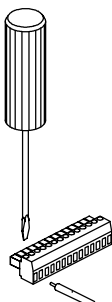

Figure 5 - Inserting the wire
- 8) Loosen the terminal block connector screw of the selected position, insert the wire and tighten the screw (see Figure 5).